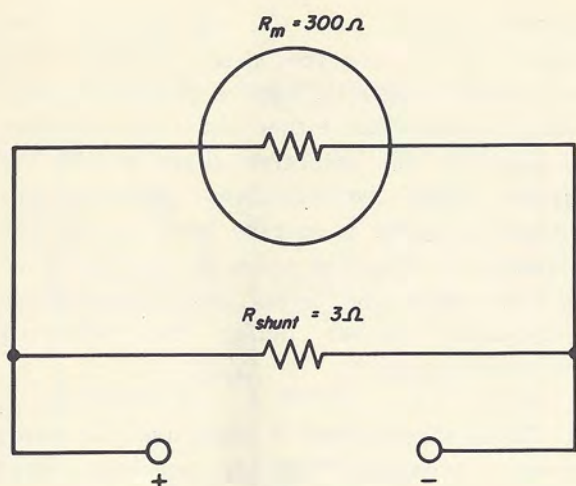

Fig. 11-11
**Calculating Shunts.** We have seen how we may increase the usefulness of a meter by adding voltage ranges with the aid of multiplier resistors. The current-reading capacity of a meter may also be increased by using *shunt-resistors* or *shunts*. Shunts are resistors in parallel with the meter movement. For example, in Fig. 11-11, a 3-ohm resistor is connected in parallel with a 300-ohm, 1-ma movement. As you know, the greater the resistance, the less is the current; and the less the resistance, the greater is the current. So, any current entering at the negative meter jack and leaving at the positive meter jack will divide between the meter and the shunt resistor, with the greater part going through the low-value shunt resistor. In fact, we can calculate exactly how much will flow in each, because the current will be in inverse proportion to the proportion of the meter resistance over the shunt resistance. The proportion of the meter resistance to the shunt resistance is: